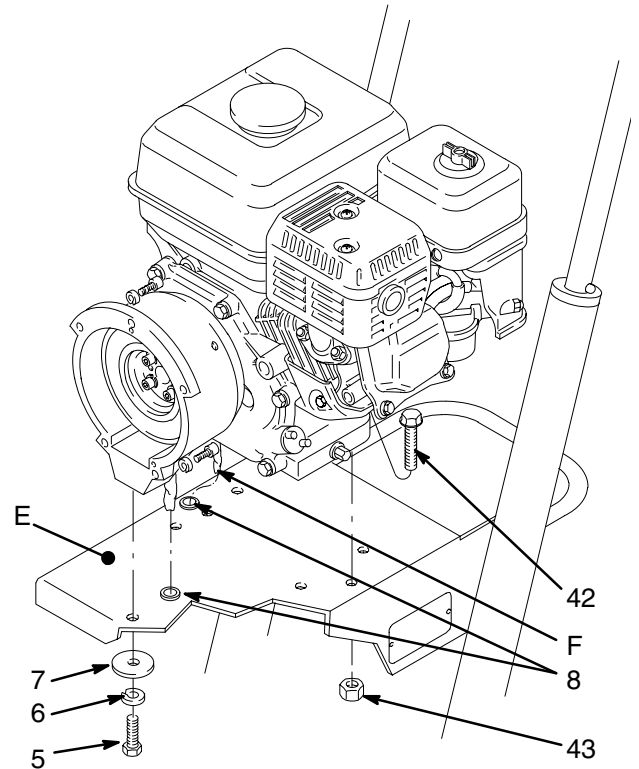

Fig. 22
1. Working under the mounting plate (E) of the cart, remove the screw (5), lockwasher (6) and washer (7). See Fig. 22.
2. Remove the engine-mounting locknuts (43) and screws (42). Disconnect the mating black, white and green wires. Pull the wires carefully through the grommets (8) before removing the engine. See Fig. 22 and 23.